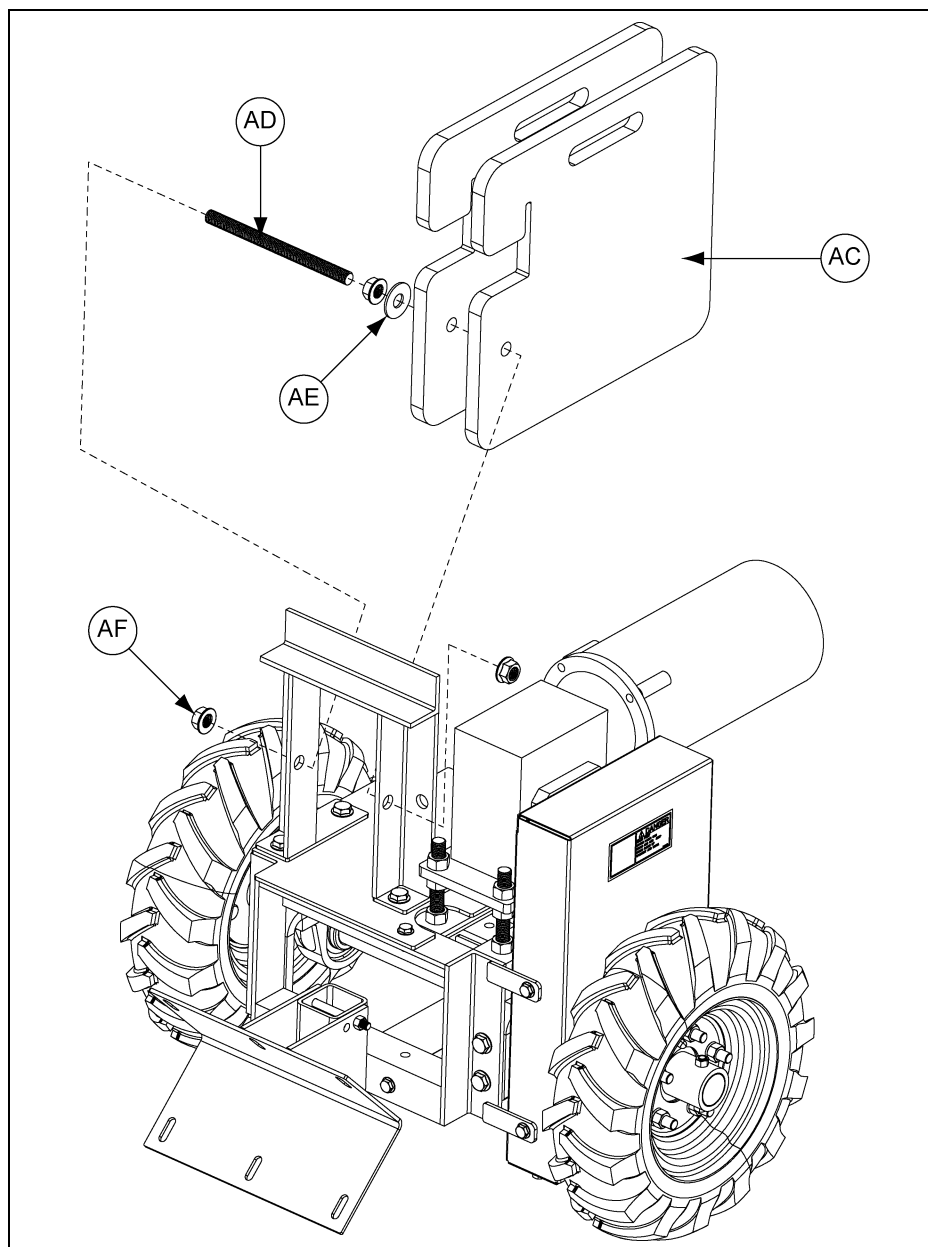

Figure 4Z
21. Mount the weights (AC) to the weight stand using one 5/8"-11 x 8-1/2" threaded rod (AD) and three (3) flange nuts (AF) and one flat washer (AE). (See Figure 4Z.)